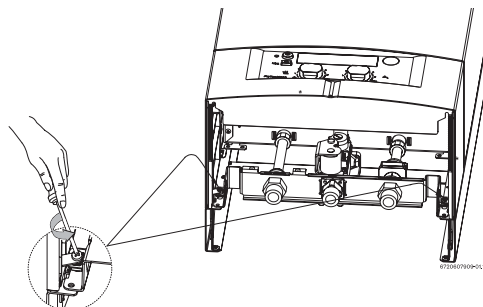

Fig. 2 Screws
- Loosen the two Philips head screws located as shown in fig. 2.